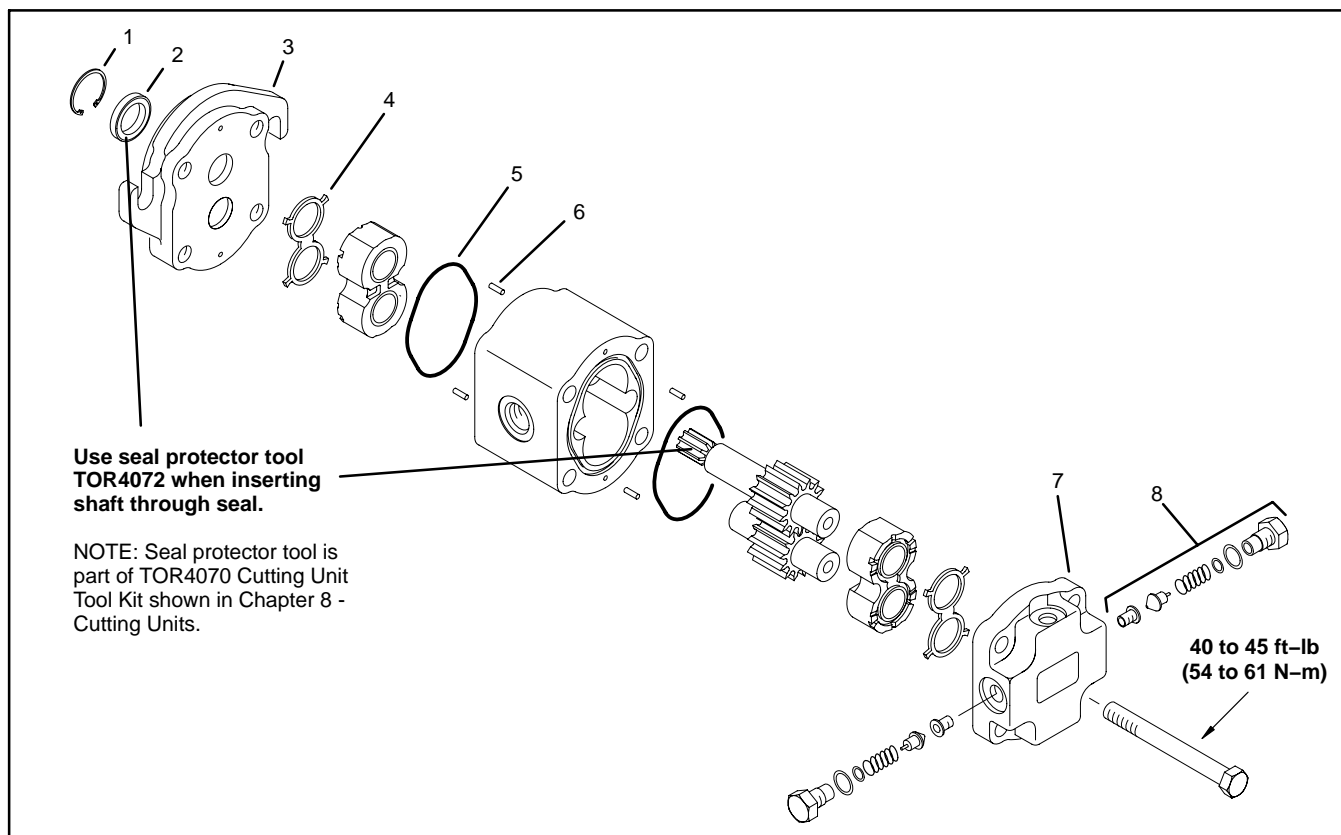

Figure 87
Note: The adjusting valve (#8 Fig. 87) must be replaced as a complete assembly. Disassemble parts for cleaning and inspection only.
3. Secure the flange end of the motor in a vise with the drive shaft pointing down (Fig. 87).
6. Remove valve block (Fig. 87).
1. Put flange on a clean, flat surface with shaft seal facing up. Remove retaining ring (Fig. 87).
1. Put bearing block on a clean, flat surface with E-seal facing up (Fig. 87). Remove E-seal. Clean E-seal groove.
1. Remove dowel pins and O-rings from gear housing. Clean O-ring grooves (Fig. 87).
1. Put flange on a flat surface with shaft seal facing down. Make sure back side of flange is free of contamination (Fig. 87).